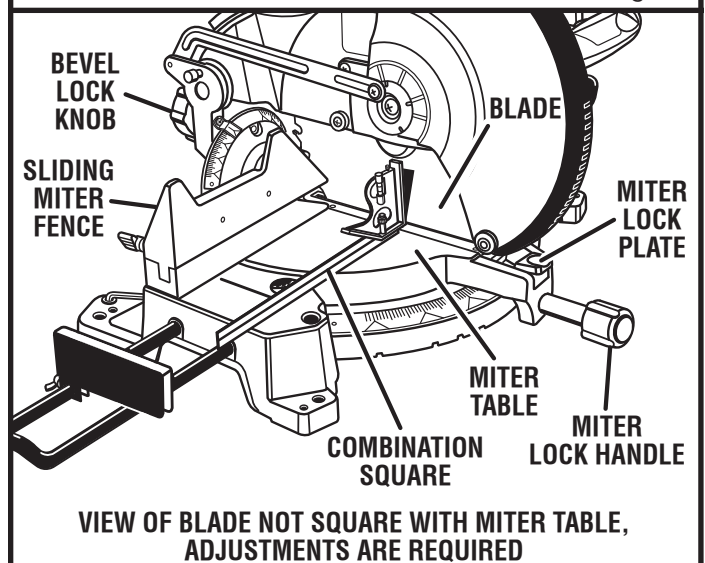

Fig. 30
- If the top or bottom of the saw blade angles away from the square as shown in figures 30 and 31, adjustments are needed.